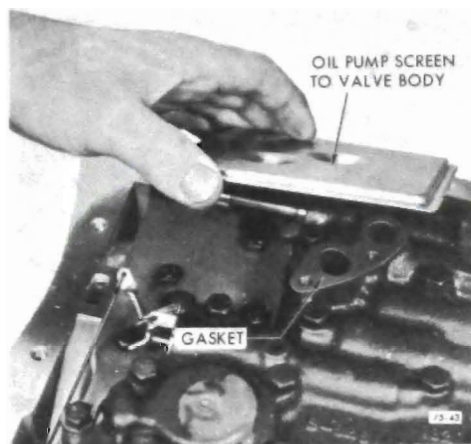

Figure 75-70
2. Remove strainer assembly and gasket from valve body. See Figure 75-70.